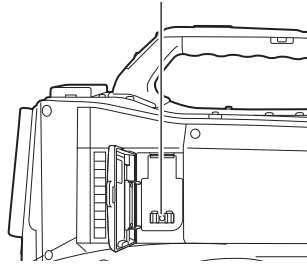

Fig. 2
- 2** Remove the wireless module fixing part from the camera. (Fig. 2)
- 2** Attach the USB 2.0 extension cable to the <USB2.0> terminal (sub-host). (Fig. 2)